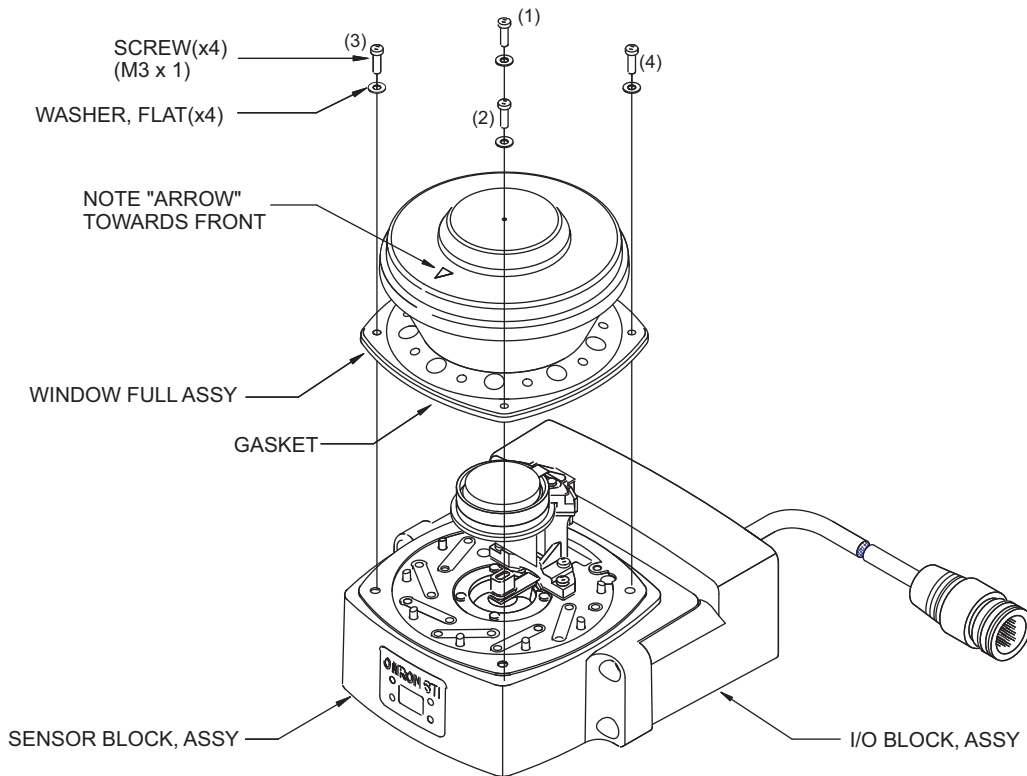

Fig. 7-16 Window Replacement
7. While applying even pressure to the top of the window, evenly tighten the four screws with flat washers in an alternating pattern ( Fig. 7-16). It is recommended that the screws be tightened to a torque of 0.56 N•m (5.0 lb-in).